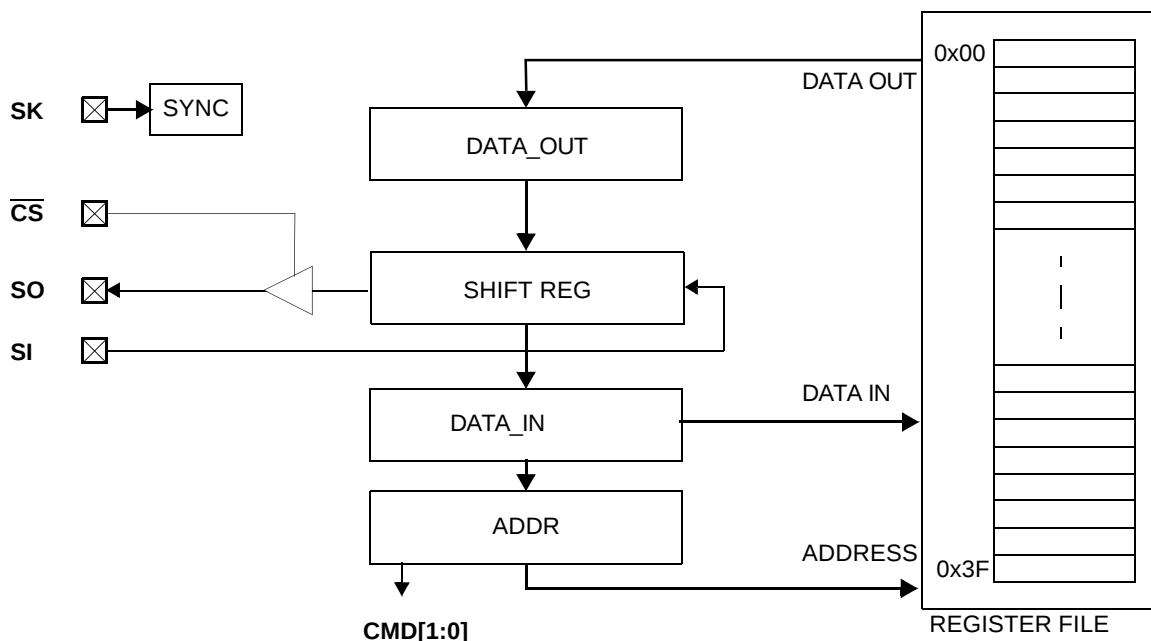

Figure 10. MICROWIRE Interface Block Diagram
IRE/PLUS mode uses pins called chip select ($\overline{CS}$), serial clock (SK), serial data in (SI), and serial data out (SO), as shown in Figure 10.